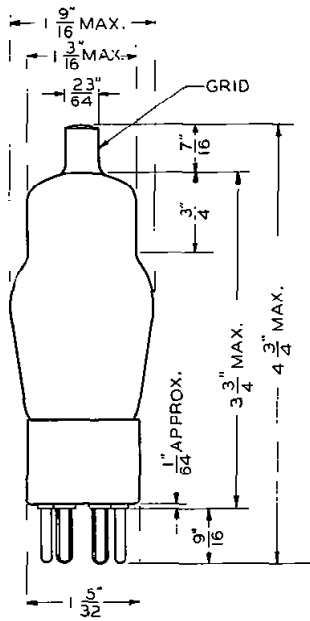

FIG. 1
**Dimensions and Connections—**Outline diagrams of the tube and base giving the dimensions and the arrangement of the electrode connections to the base terminals are shown in Figures 1 and 2.